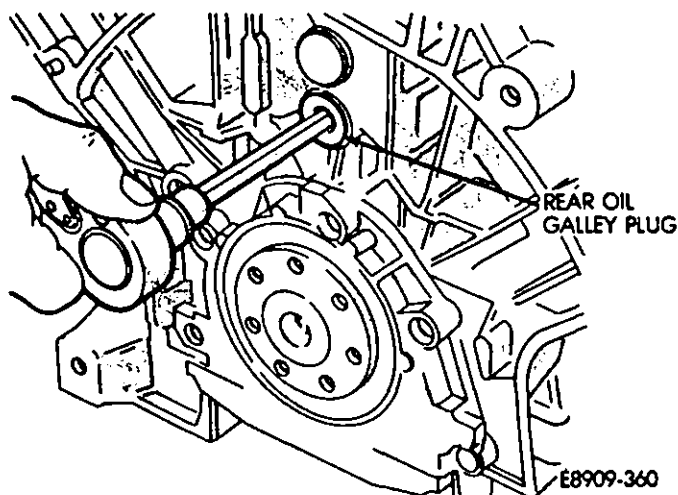

Fig. 13—Rear Oil Galley Plug
(1) Clean the cylinder liner seat. Remove all deposits from the seat and from the water jacket walls of the cylinder liner.
(2) When cleaning the cylinder block, remove the oil galley plug at the rear of the block (Fig. 13).